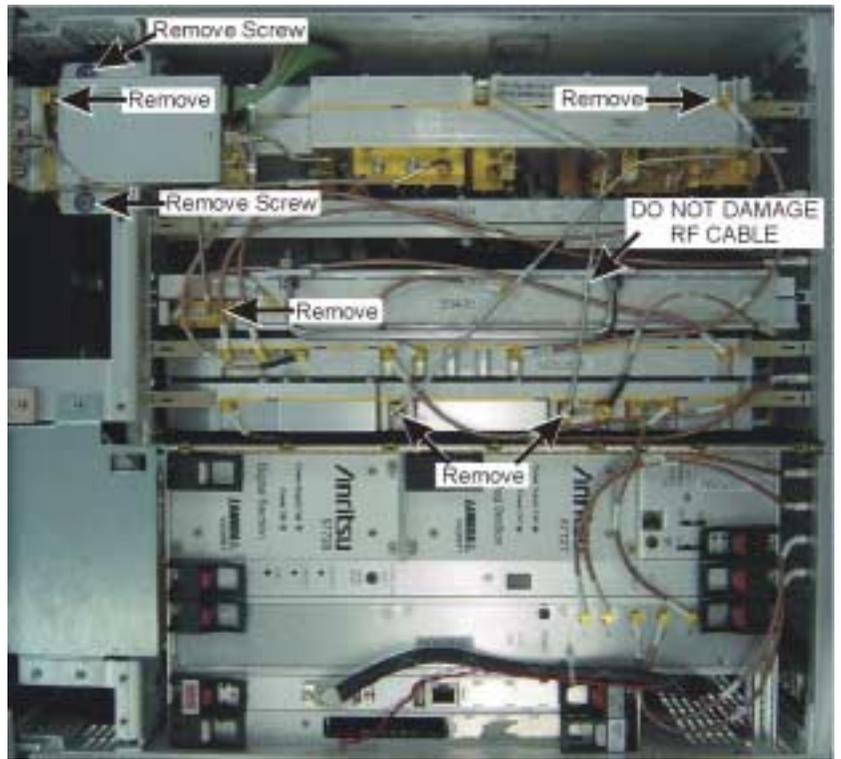

Figure 6-12. A3 Cables
- Step 3.** Remove the two MCX cables from the front and back of the module, then remove the three RF cables at the A5 sampler and the A7. Also remove the two chassis mounting screws at the front of the module. (Refer to Figure 6-12 on the following page)